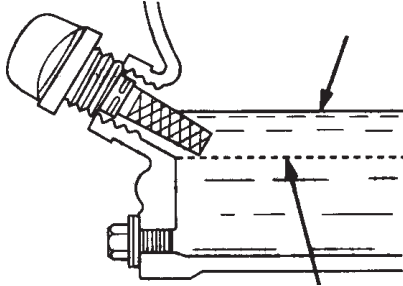

Figure 6. Engine Oil Dipstick (Oil Level)
4. If the oil level is low (Figure 6), fill to the edge of the oil filler hole with the recommended oil type (Table 3). Maximum oil capacity is .079 gallons (0.3 liters).